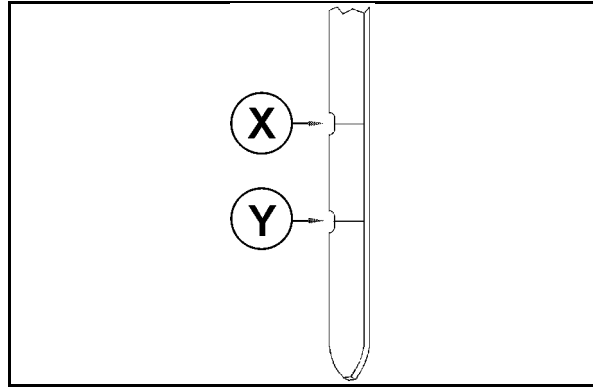

Fig. 93
5. Pull the oil-level dipstick (1) out and wipe it using a clean cloth.
The oil level should always be between the top (X) and bottom marking (Y) of the oil-level dipstick (Fig. 93).